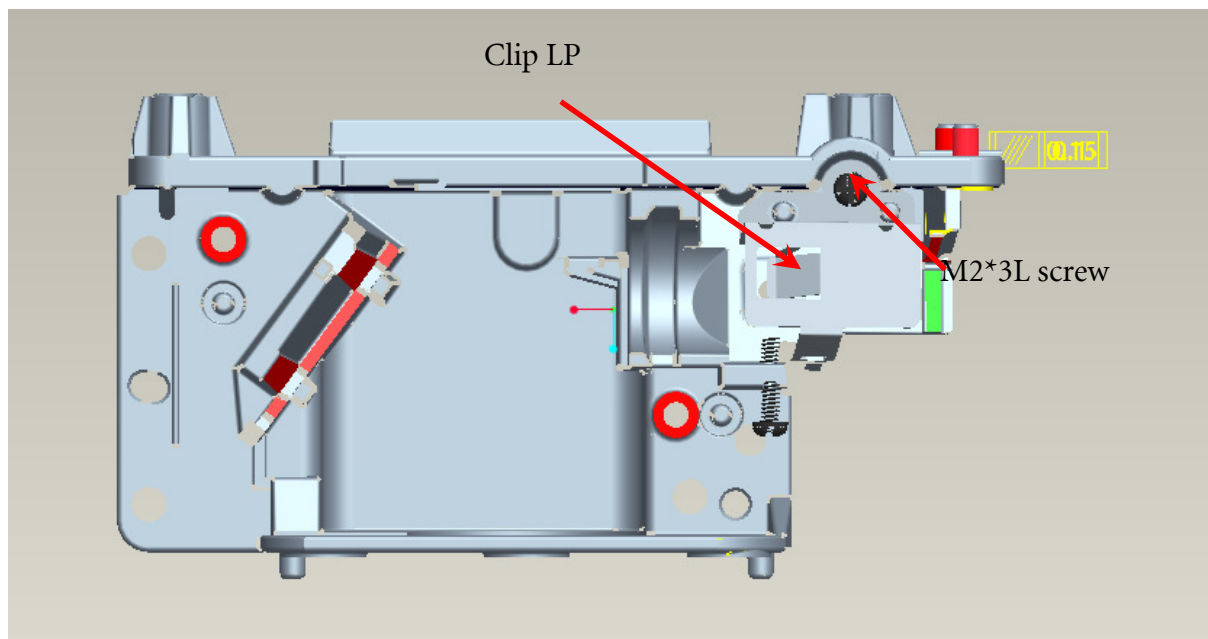

Fig. 1-2
- i. Assembly “Clip LP” and lock with screw well (Fig. 1-2).